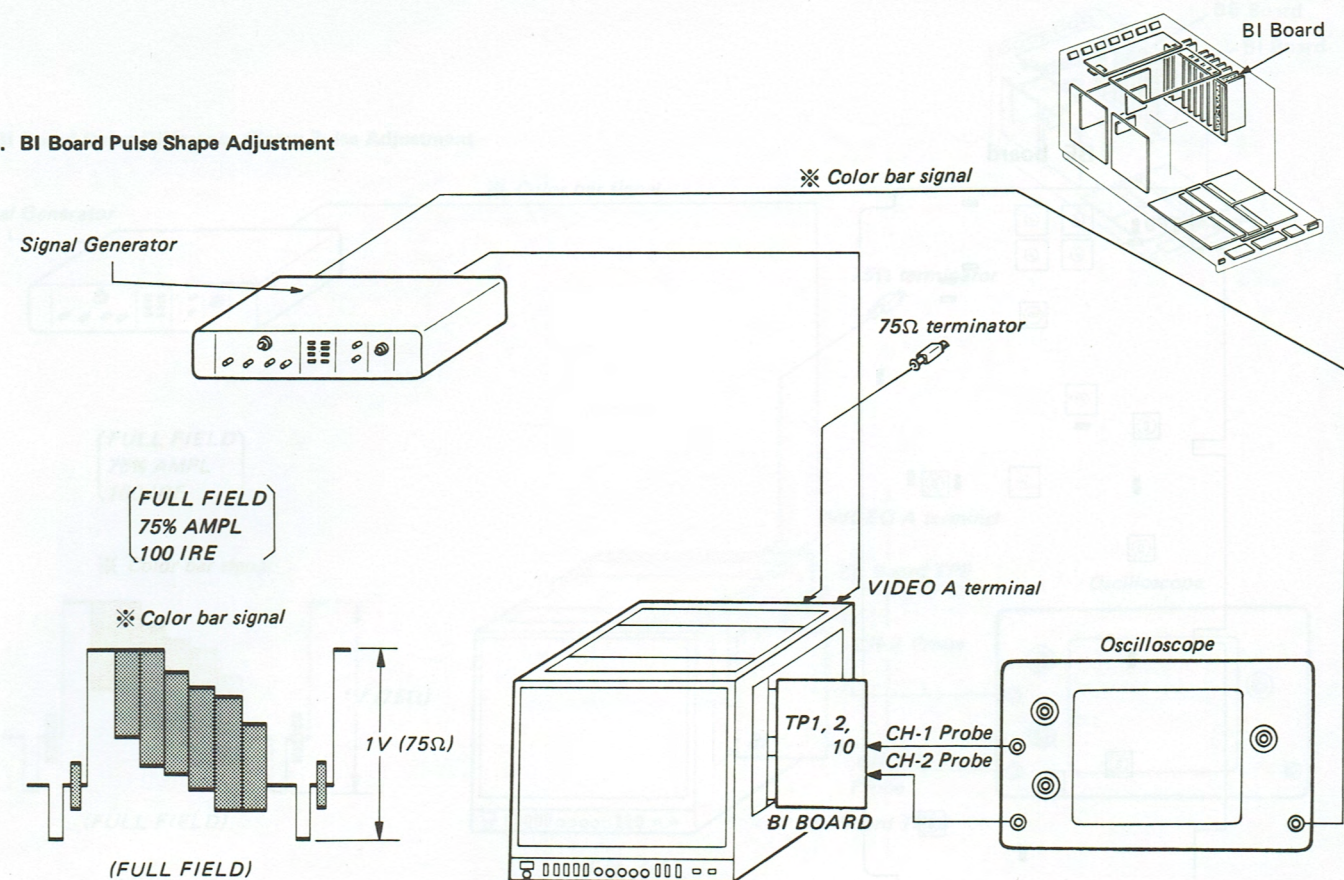

Fig. 8-1.
1. Connect as shown in Fig. 8-1.